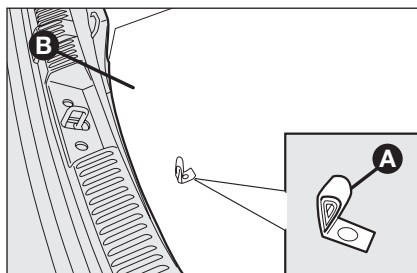
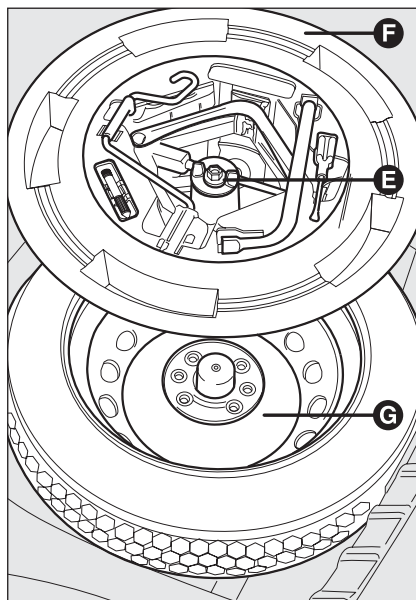

fig. 2
fig. 3
- ☐ use the handle **A**-fig. 2 to remove the piece of stiff cover **B**; loosen the clamping device **E**-fig. 3;
- ☐ for versions with small spare wheel, unscrew the retaining device **E**-fig. 3, take the tool kit **F**, place near to the wheel to be replaced and then take the small spare wheel **G**;